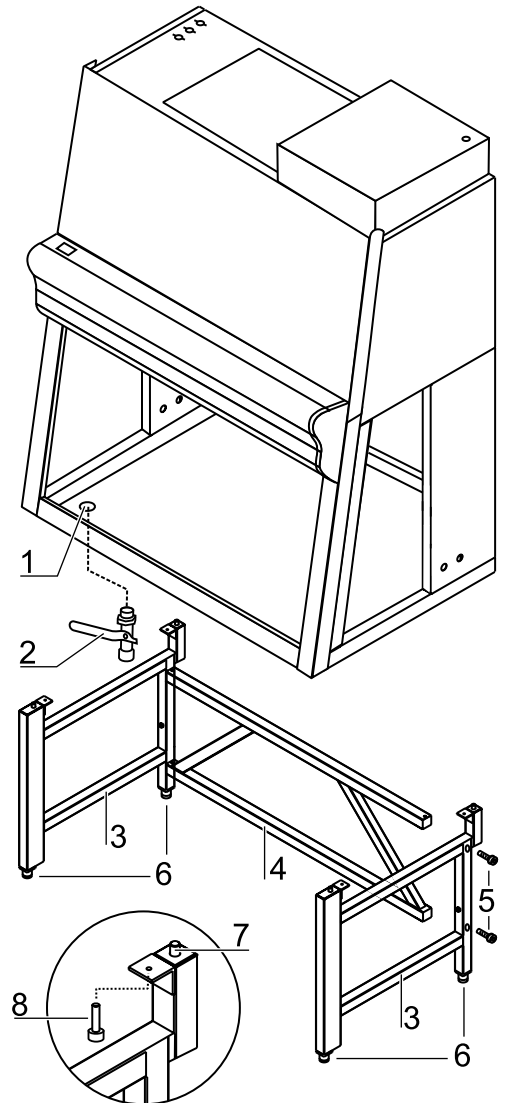

Fig. 11
1. **Fig. 11:** Install the two side members [3] to the rear support [4] using the screws [5].
1. **Fig. 11:** Wrap sealing tape around the thread of the drain valve [2].